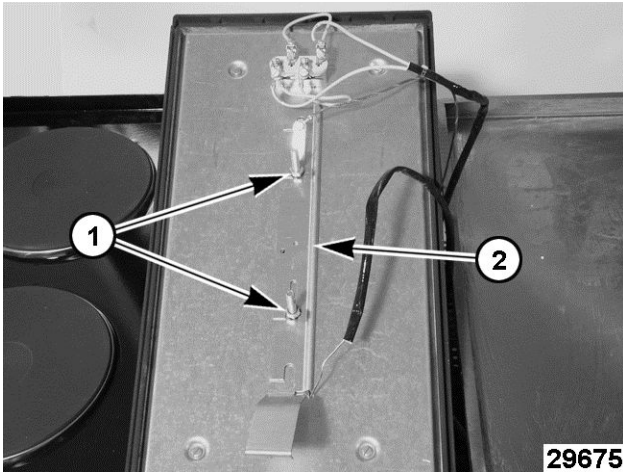

Fig. 22
2. Remove mounting nuts (1, Fig. 22) that hold thermostat bulb clamp (2, Fig. 22) to the plate assembly.